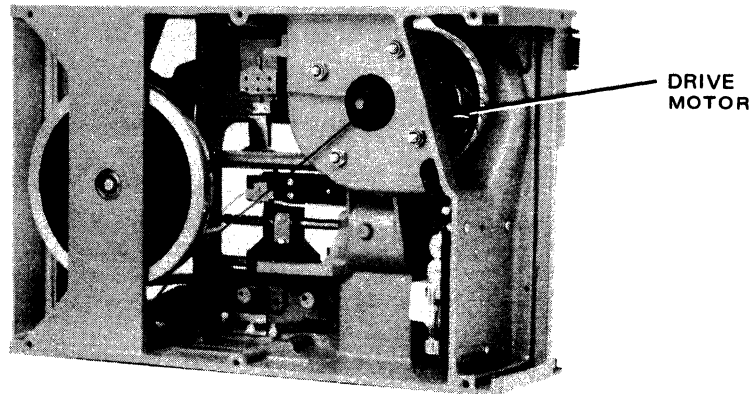

Figure 7-10. Drive Motor
- d. Remove four mounting nuts, right side, Figure 7-10.